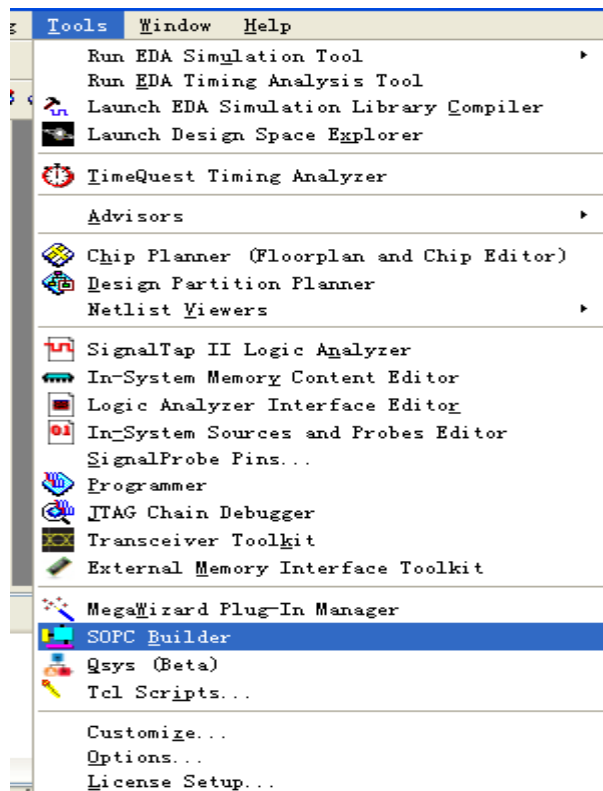

Figure 7-9 SOPC Builder Menu
5. Select **Tools > SOPC Builder** to open SOPC Builder, the Altera system generation tool, as shown in Figure 7-9.